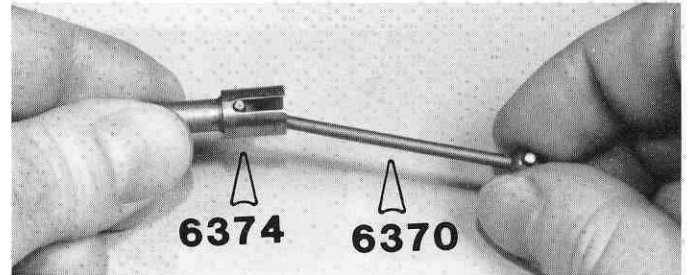

Fig. 81
□ **Fig. 81** Before proceeding with the assembly of the rear hub carrier, it's a good idea to check fit of the #6370 dogbone in the #6374 stub axle. These parts are in bag #6-8. If it does not slide and swivel freely, then check for burrs around the dogbone pins, burrs in the dogbone pin slots, and for heat-treating residue inside the stub axle. Also check that the #6272 dogbone spring fits freely in the small hole at the bottom of the dogbone socket (see Fig. 115). If either of these holes are clogged they can be cleaned by soaking the stub axle in hot or boiling water for a half hour. Dry and oil the stub axle after cleaning.